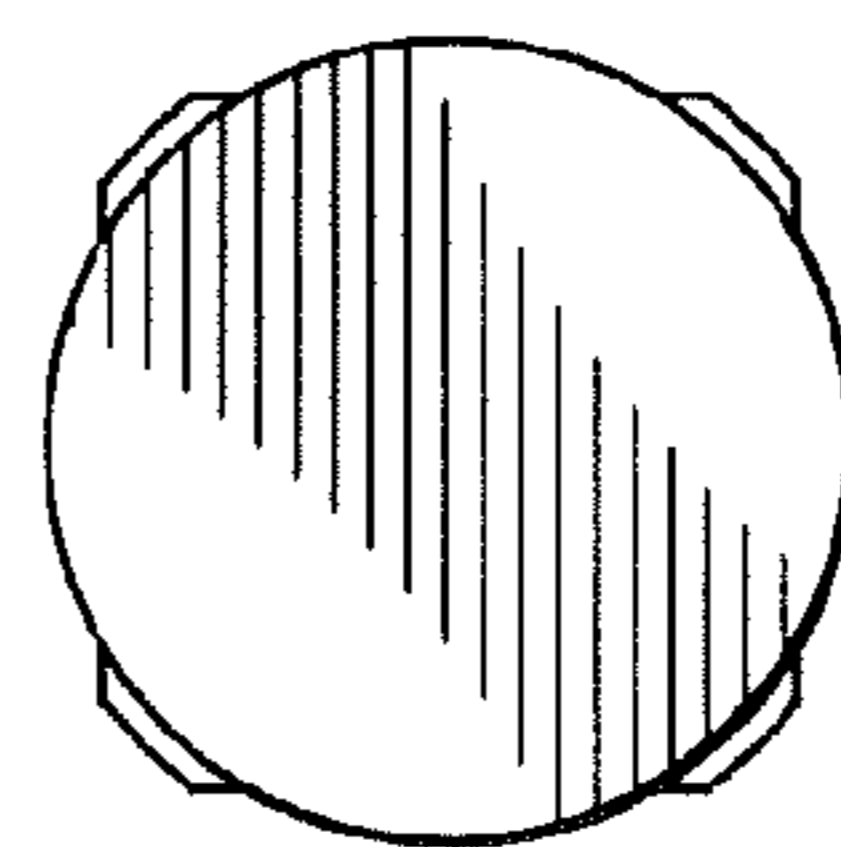

Fig. 24
- FIG. 24 is a bottom plan view of the stud having latitudinal ridges.